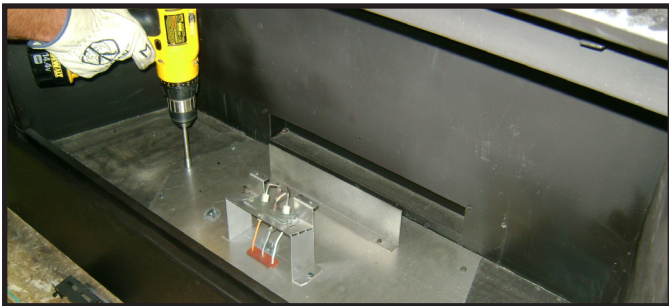

Figure 11.2. Remove Valve Plate Screws
1. Remove eleven screws around perimeter of valve plate and one on the valve bracket that secure valve plate to the firebox bottom. See Figure 11.2.
**Note:** There is an alternative access to the junction cord. This can be accessed by removing the valve assembly. See Figures 11.2 and 11.3.